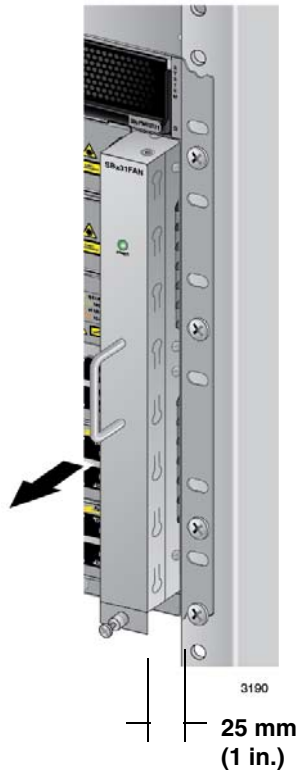

Figure 172. Withdrawing the AT-SBxFAN12 Fan Module 25 mm (1 in.) from the Chassis
7. Slowly pull the module out 25 mm (1 in.). Refer to Figure 172.